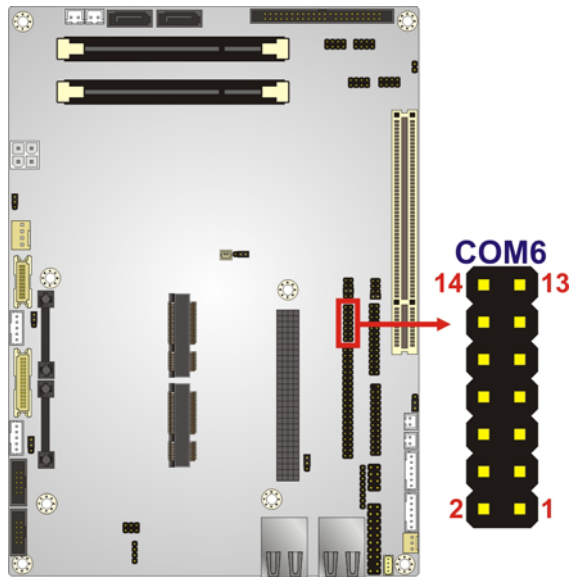

Figure 3-27: Serial Port Connector Location
- CN Location:** See Figure 3-27